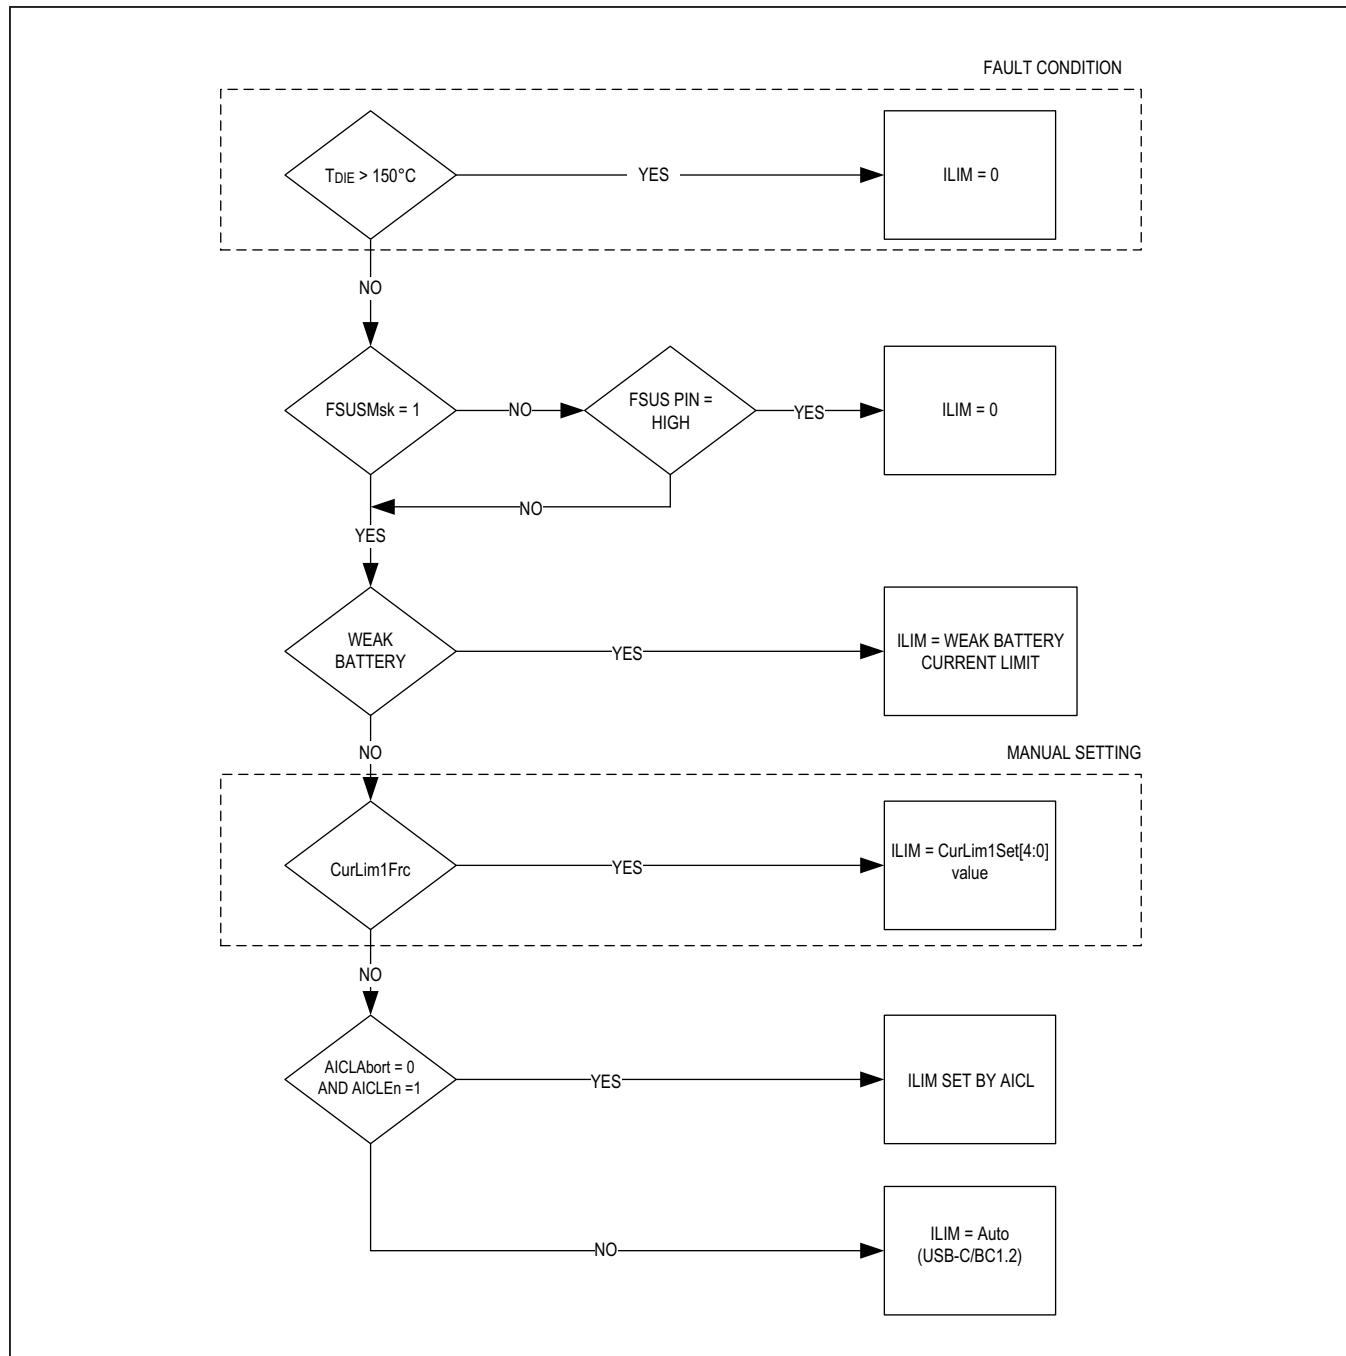

Figure 1. Input Current Limit Settings Flow Diagram
- 1) CHGIN Input Current Limiting: The CHGIN input current is limited to prevent input overload. The current limit can be automatically selected through charger detection to match the capabilities of the source. The result is indicated by SpvChgllim[4:0] in register 0x22. See Table 1a for more details. It can also be manually set through CurLim1Frc and CurLim1Set[4:0] in register 0x21. Figure 1 illustrates how the current limit setting is selected.